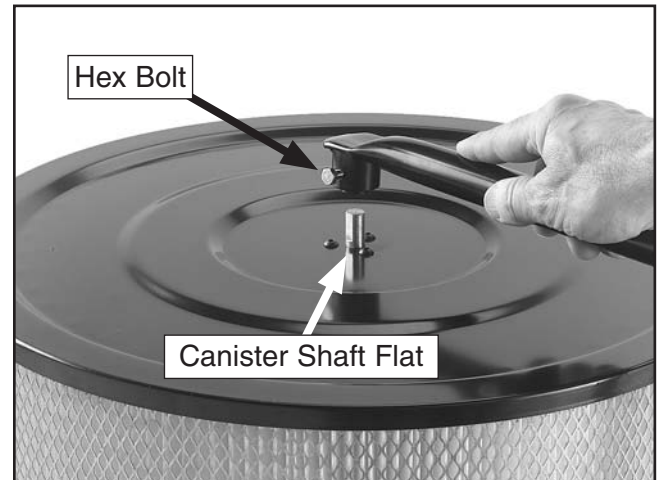

Figure 19. Installing the canister cleaning handle.
10. Place the cleaning handle on the canister shaft, align the hex bolt with the flat portion of the shaft and tighten the bolt, as shown in **Figure 19**.